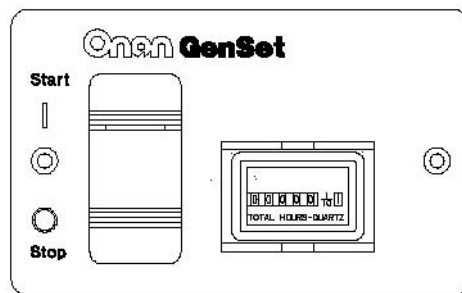

FIGURE 4. REMOTE SWITCH/HOUR METER
- Remote switch with status indicator light and hour meter (Figure 4).